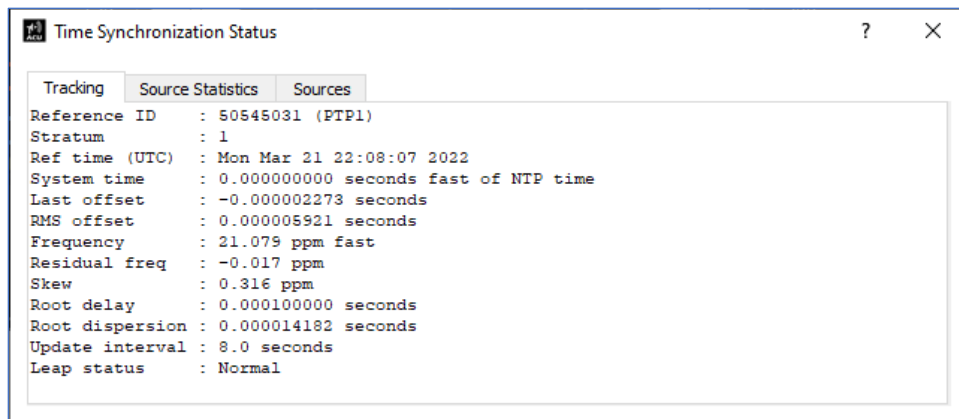

Figure 120: Time Synchronization Status, Tracking Tab
Date and time display is in the right hand corner of the Lower Tool Bar. The Clock icon glows green when time code information is present, and red when time code information is missing. Selecting the green Clock icon opens the Time Synchronization Status window, as shown in Figure 120. This window contains three (3) sub window tabs: